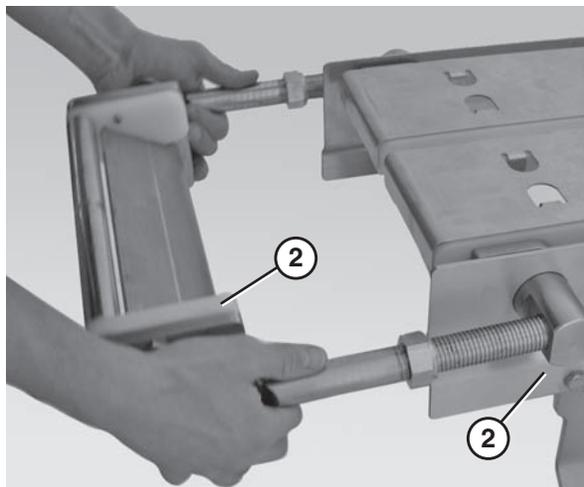

Figure 81
2. Slide the nose bar tail assembly (**Figure 81, item 1**) out of the take up blocks (**Figure 81, item 2**).